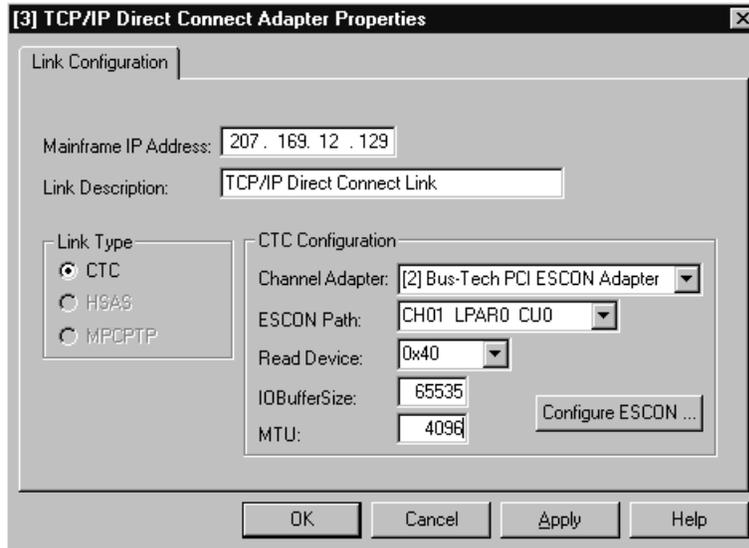

Figure 6-5. TCP/IP Direct Connect Properties
1. Verify that the Mainframe IP address specified in the TCP/IP Direct Connect Properties screen (Figure 6-5) matches the IP address assigned as the Home address in the TCP/IP Profile on the mainframe (Figure 6-6).
2. Verify that the subchannel address defined in the TCP/IP Direct Connect Properties screen (Figure 6-5) points to the correct device in the ESCON configuration so that the Unit subchannel address assigned in the ESCON configuration matches the DEVICE statement of the TCP/IP Profile (Figure 6-6). In the example, 'a40' indicates a channel address of 'a' and a subchannel address of '40'. Keep in mind that a CTC link actually uses two subchannels. Specifying '40' implies that both subchannel '40' and '41' will be used for this link.